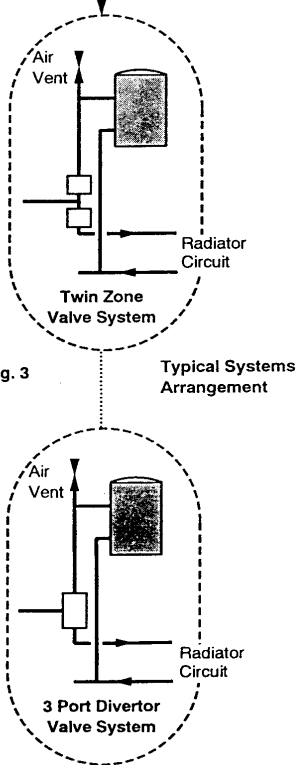

Fig. 3
- b) A system using twin zone valves (e.g. Honeywell 'S' Plan) (Fig. 3).